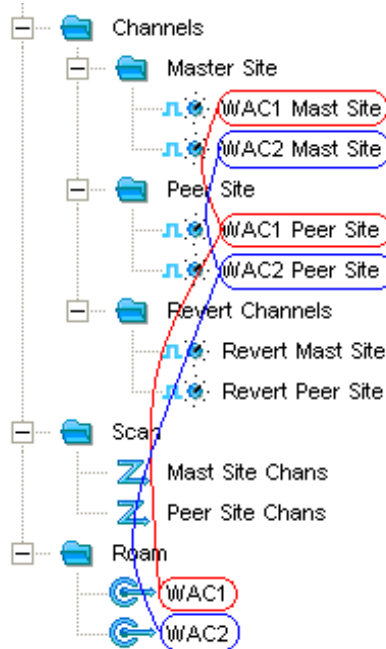

Figure 7.5
- 1) To make the radio operation more intuitive to the user, it is recommended that the channels from the different sites be grouped into radio zones as shown in Figure 7.5 below. For this example there are 2 radio zones (i.e. 'Mast Site' and 'Peer Site').
- 2) Where there are revert channels (both Emergency and GPS), it is recommended that these channels are all grouped together into a zone by themselves as shown in Figure 7.5 below.
- 4) Ideally all other channel parameters should remain common across all channels which constitute a wide area channel. If alternative configurations are required (e.g. the radio needs to belong to different talkgroups), then it is recommended that additional wide area channels are defined in the radio personality. For the example in Figure 7.5 below there are 2 wide area channels (i.e. WAC1 and WAC2).